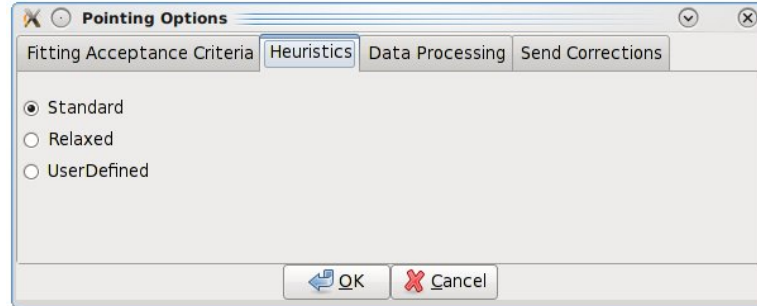

Figure 5.4: The pop-up menu to change the pointing and focus fitting heuristics.
Step 6 Select the new Heuristics mode in the pop-up window. (see Figure 5.4).